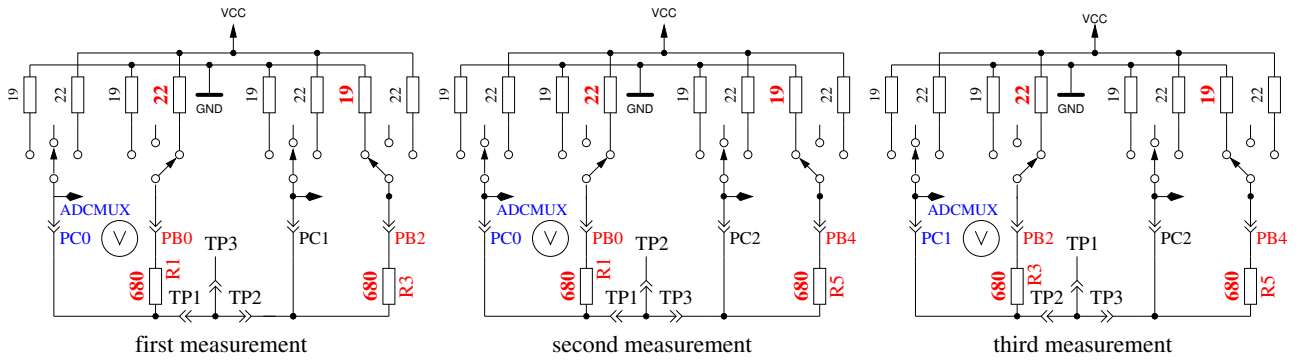

Figure 5.56. Comparison of 680Ω resistors
2. **Comparing of the 680Ω resistors.** In row 1 the cryptic text “+RL- 12 13 23” is shown. Meaning of this is as follows: The RL is the short form of Resistor Low meaning the 680Ω resistors. The 12 stand for: resistor at pin 1 is connected to VCC (+) and resistor at pin 2 is connected to GND (-). The result of this measurement is displayed in row 2 at the first place as difference to the theoretical value. In row 1 follows now a “13” which means, that the first connection of measurement 1 is still connected with 680Ω to VCC but that the resistor of pin 3 is connected to GND. The result is displayed in the middle place of row 2 as difference to the theoretical value. The last measurement of this test “23.” means that now the resistor at pin 2 is connected to VCC (+) and the resistor of pin 3 is connected to GND. The result of measurement is displayed at the last place of LCR row 2 as difference to the theoretical value. Please remember, that the resolution of the ADC is about 4.88mV! The measurement situation is also shown in figure 5.56. The theoretical value with respect to the internal resistance of the pins should be: